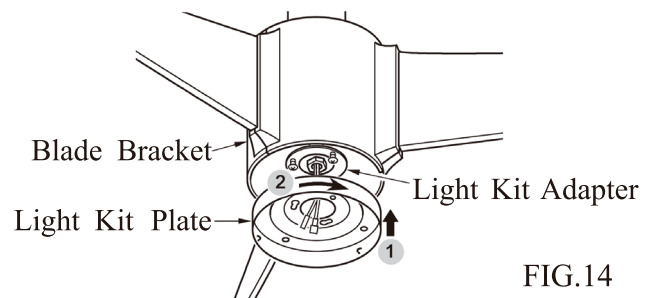

FIG.14
2. Gently pull the wire through light kit plate. Have the key hole over the loosened screws. Turn the light kit plate clockwise, and tighten the previously removed and loosened screws. (See fig 14 & 15)